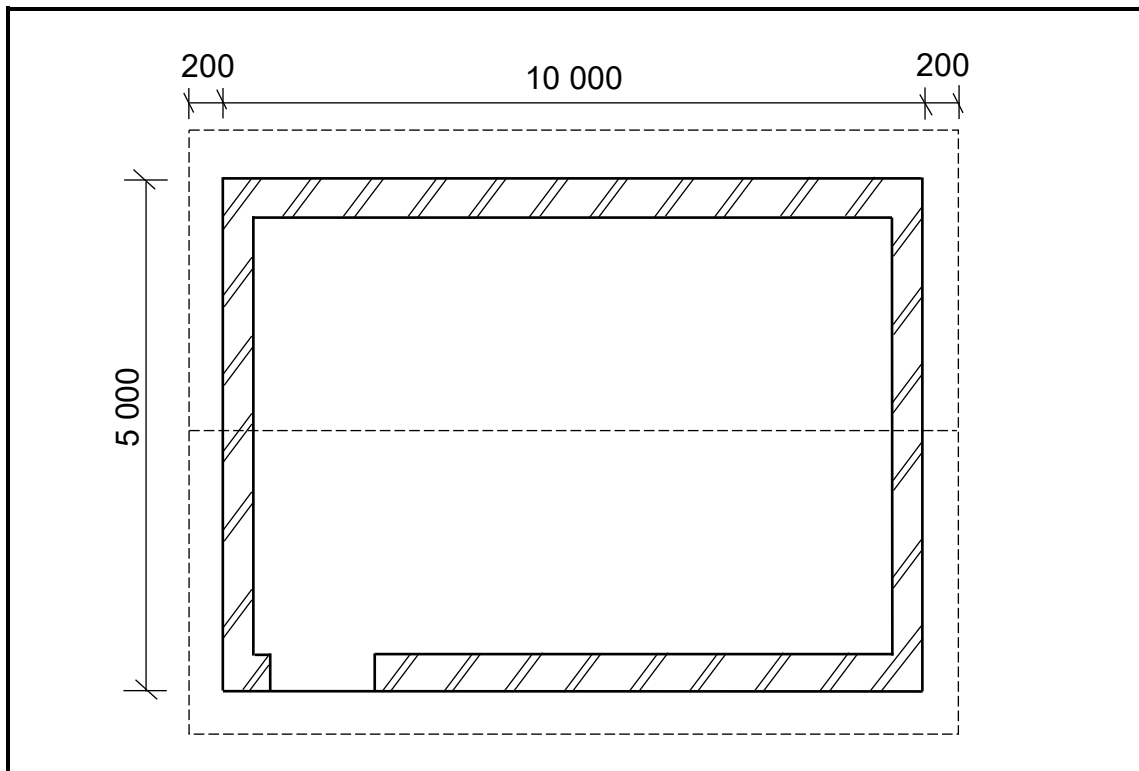

FIGURE 3.3
3.3 FIGURE 3.3 below shows the floor plan of a storeroom with a gable roof.